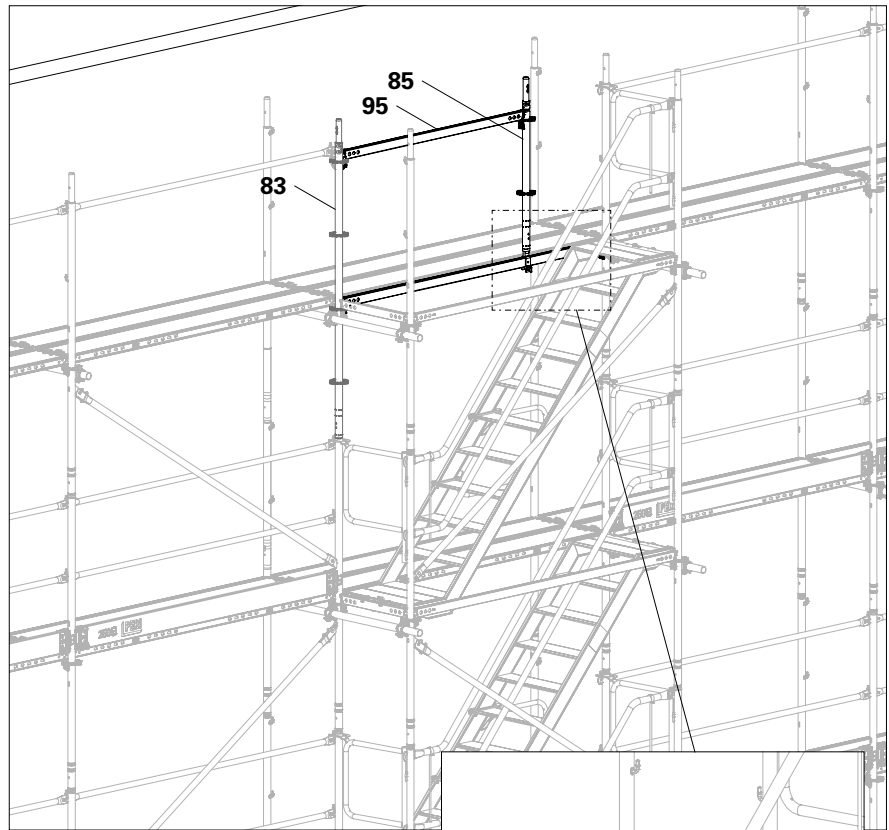

Fig. B8.11
5. Align UH Spigot-2 (**93**) and secure the wedge. (Fig. B8.11 + B8.11a)